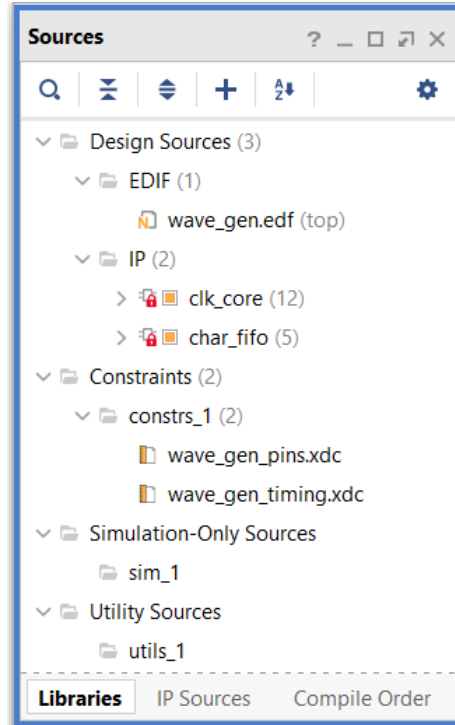

Figure 34: Project Sources
- 11. Expand the sources window as shown in Figure 34, to see the netlist, IP, and constraints that comprise the project.